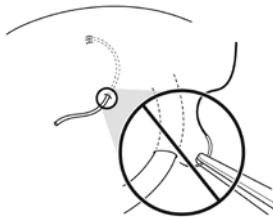

Figure 42
**CAUTION:** Do not suture the exit-site (Figure 42).